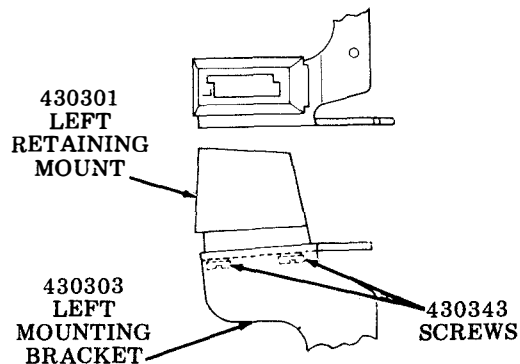

Fig. 2
4.02 Attach the 430301 left retaining mount to the 430303 left mounting bracket using two 430343 self-tapping screws. See Fig. 2. Note location of the embossed letter "L" on the 430301 left retaining mount.